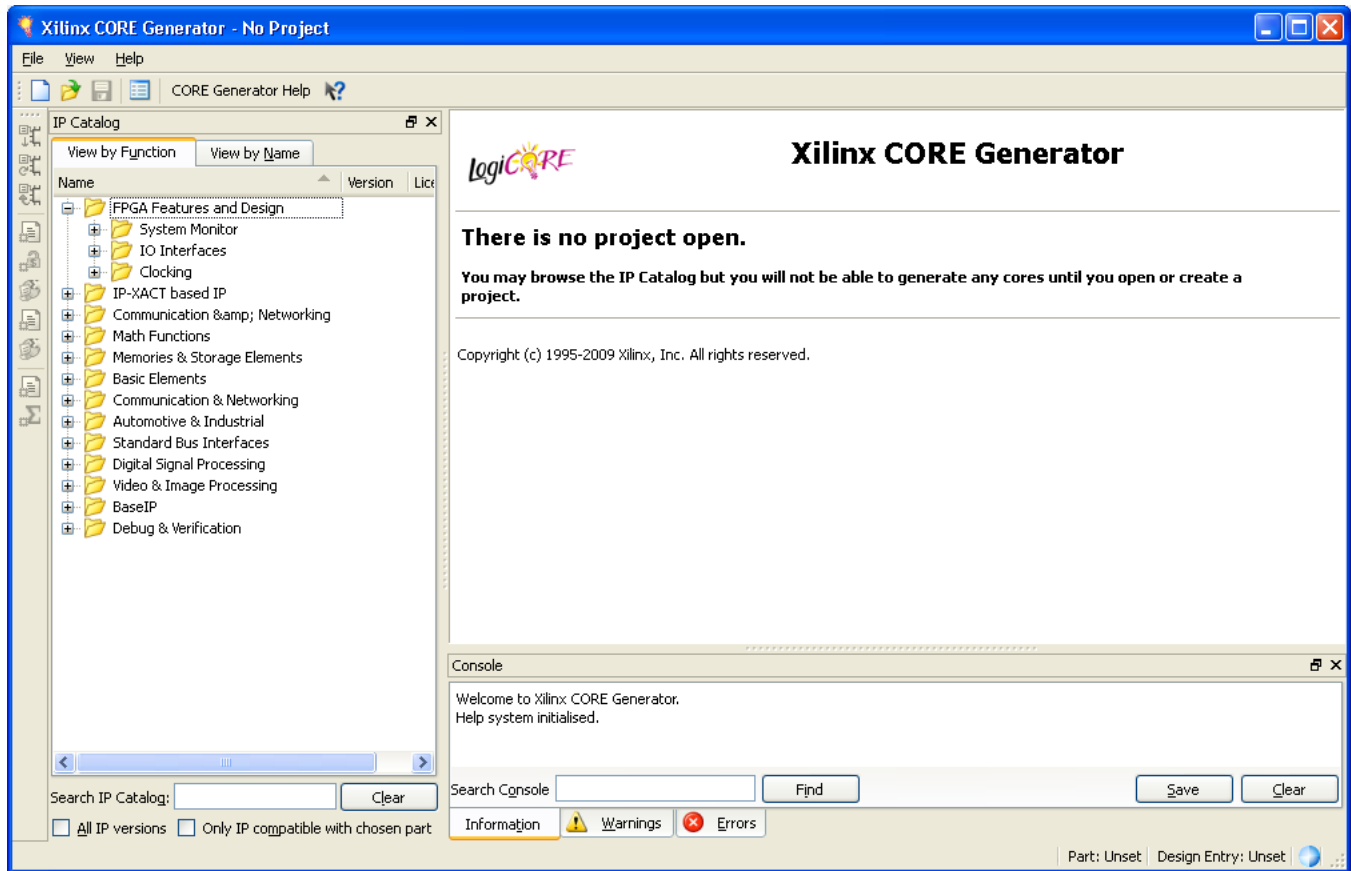

Figure 2-1: CORE Generator Window
2. After creating a new Virtex-5 or Virtex-6 family project or opening an existing one, the IP core functional categories appear at the left side of the window, as shown in Figure 2-1, page 17.